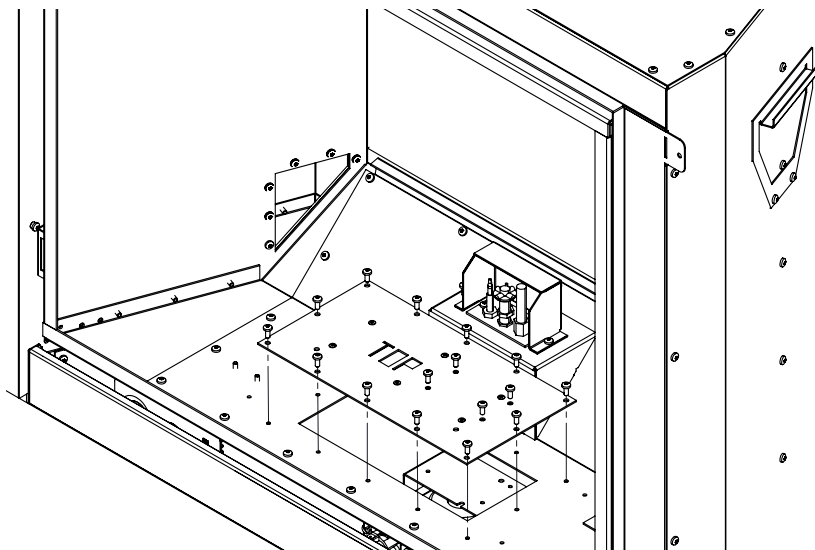

Figure 21. Removing Access Door
**Step 2:** Remove the Upper Air Diverter by removing (2) T-20 bolts. Remove the Lower Air Diverter.
**Step 3:** Remove the right and left burner stands by removing (4) T-20 bolts.
**Step 4:** Remove the (16) T-20 bolts retaining the access door as shown in Figure 21.